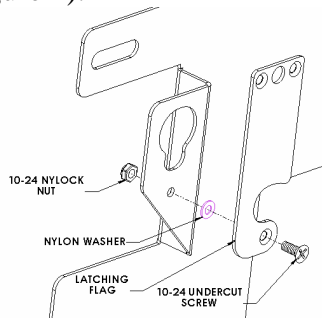

Figure 2
1. Secure latching flag to mount using the 10-24 undercut screw, Nylon washer, and Nylock nut (see Figure 2). Tighten until friction will hold the flag in place.